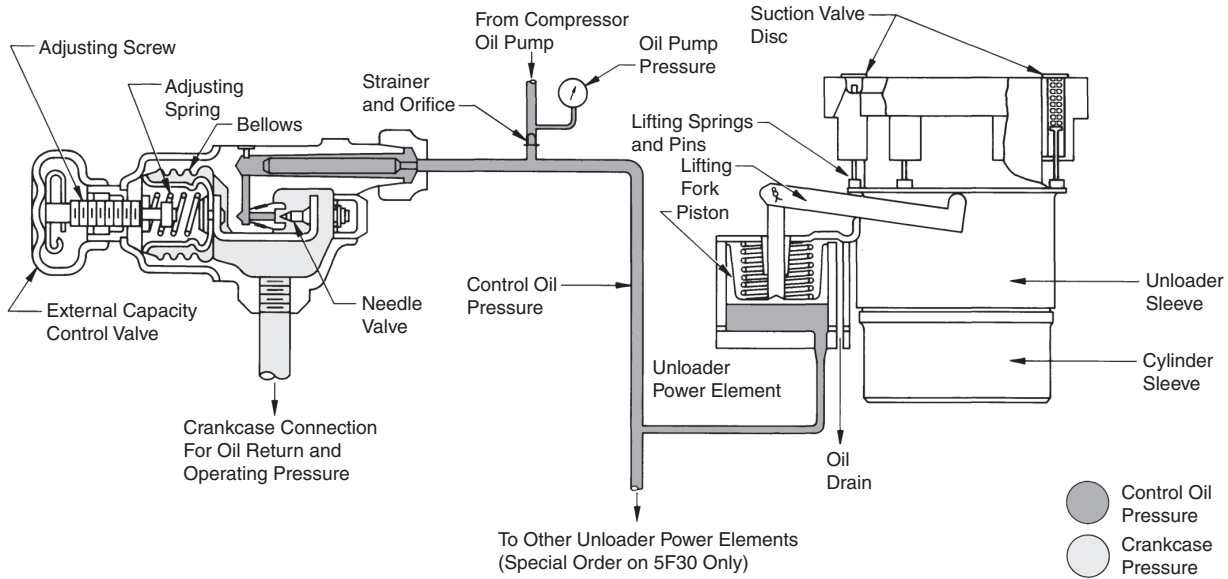

Fig. 4 — Capacity Control — 5F20, 5F30
- The 5F20 and 5F30 pressure unloading models require an external pressure control valve kit (P/N 5F20-A752). The pressure control valve is manually adjusted to direct compressor oil to the unloader power element(s) to unload and load the compressor’s cylinders at defined suction pressures for capacity control. (See Table 7 and Fig. 4.)